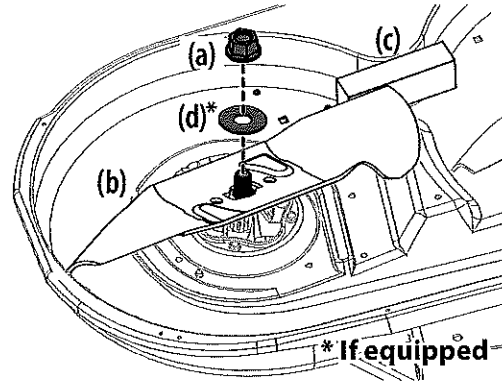

Figure 51
2. Use a 15/16" wrench to hold the hex nut on top of the spindle assembly when loosening the hex nut (a) and washer (d)\* securing the blade (b). A block of wood (c) may be placed between the deck housing and the cutting edge of the blade (b) to help in breaking loose the hex nut (a) and washer (d)\* securing the blade. See Figure 51.
3. When re-installing blades, be sure of the following (see Figure 51):